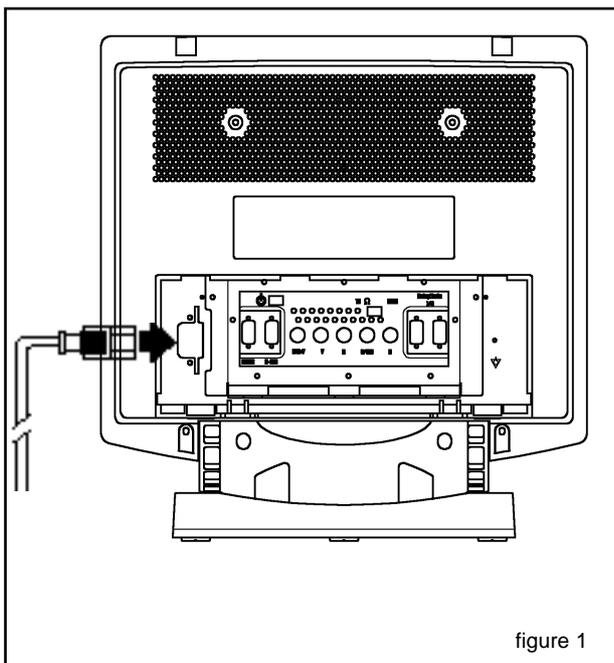

figure 1
2. Connect the female plug of the power cord to the mainssocket on the back of the monitor (see figure 1).